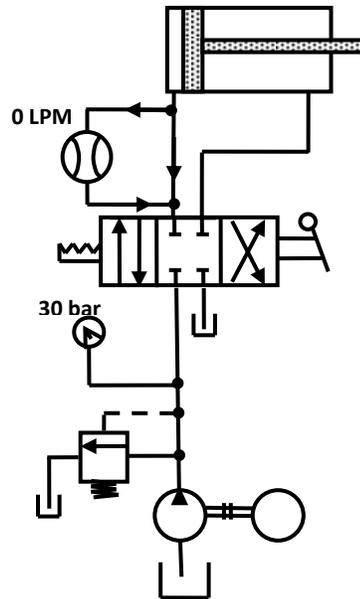

Figure 1.19 Application of 4/3-way valve – closed neutral.
3. Application of 4/3 DCV (closed neutral) for controlling a double-acting cylinder: Figure 1.19 shows it in a simple cylinder circuit. The valve shown here is spring centered, which means that it always returns to the neutral position automatically when not actuated. For closed neutral, the pump line is blocked so that the flow must pass over the pressure relief valve the pressure is at the system maximum. This is wasteful thing because it generates power in the form of pressure and flow, but does not use it. The wasted energy in the system goes as heat. This is undesirable because the hydraulic fluid becomes thinner (less viscous) as it heats up. When the fluid becomes